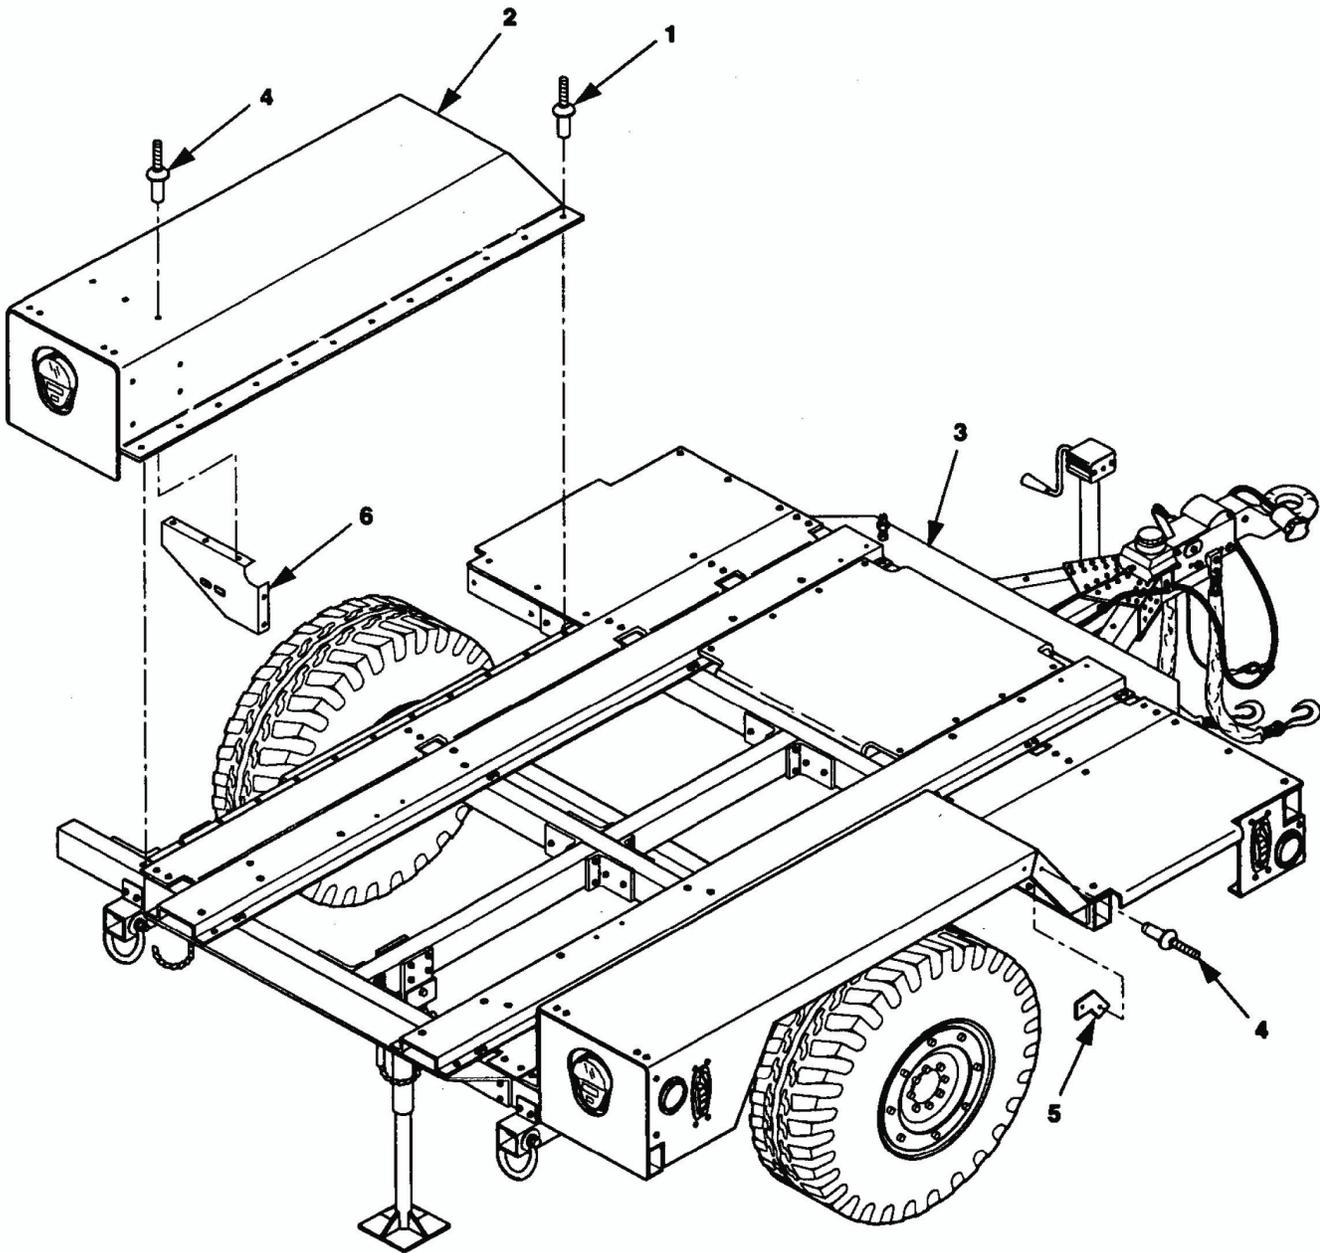

Figure 5-19. PU-801A and AN/MJQ-48A Fender Replacement.
- b. Remove rivets (1, figure 5-19) and fender (2) from trailer chassis (3).
Repair of fenders consists of welding, straightening, and spot painting as required, and replacement of rivets (4, figure 5-19), fender angle support (5), and tail light bracket (6).
a. Place fender (2, figure 5-19) on trailer chassis (3), and secure with rivets (1).
(1) Data plate (paragraph 4-22).
(2) Fire extinguisher and bracket ( paragraph 4-20)
(3) Side marker light (TM 9-2330-392-14&P)